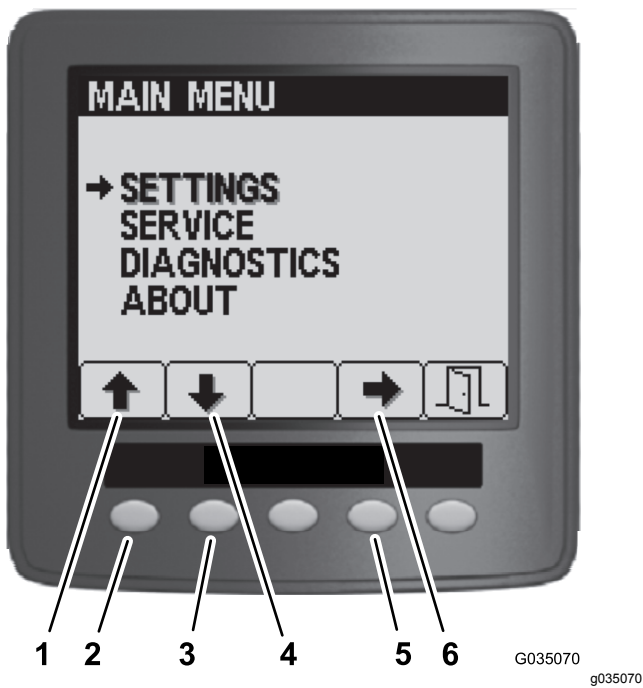

Figure 150
3. On the Main Menu, press button 1 or button 2 until the Settings option is highlighted, and press button 4 to navigate to the Settings menus (Figure 150).